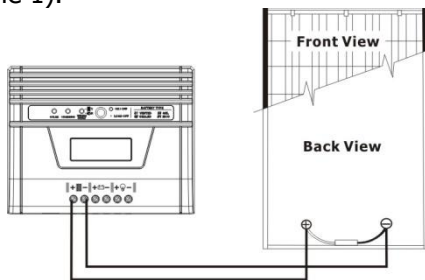

Fig. 7
- 1) **Single solar module connection (Refer to Fig. 7):** When using a single solar module, its voltage must be equal to the Nominal DC Voltage of the unit (see below Table 1).